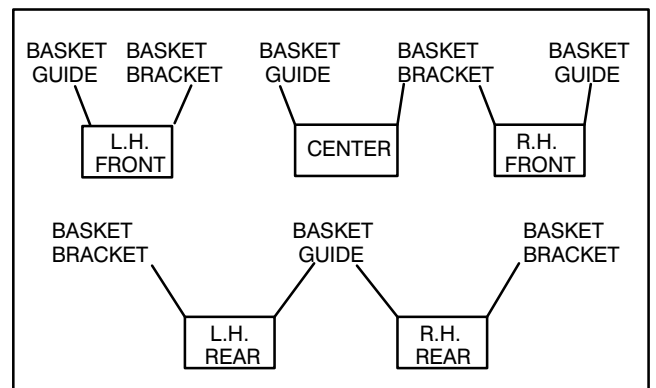
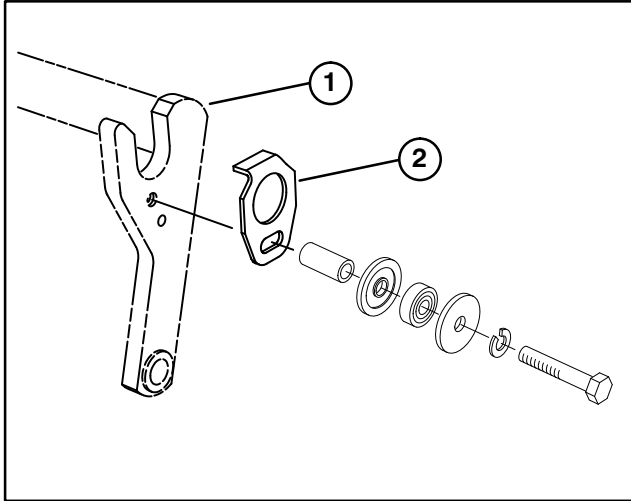
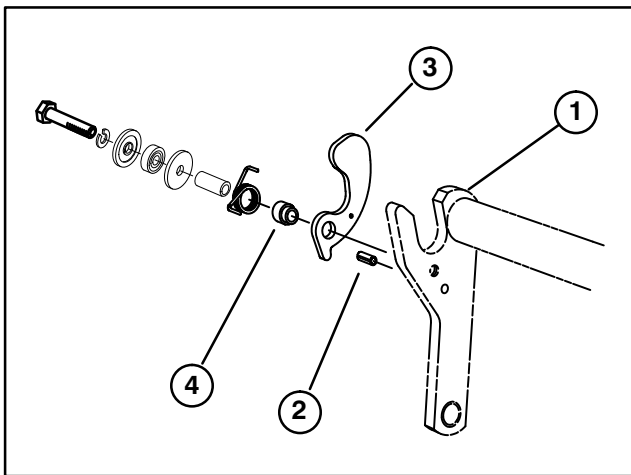
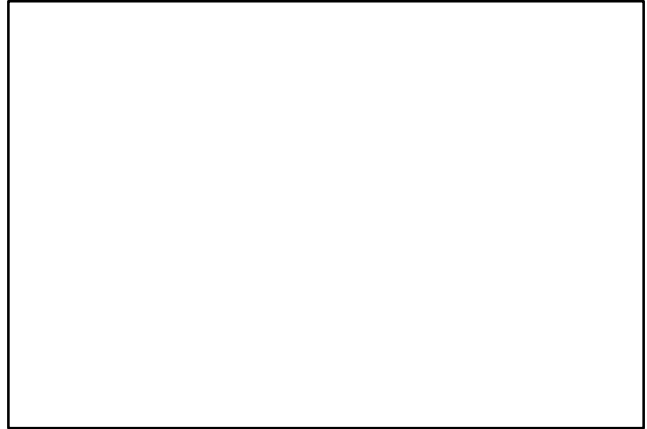

Figure 7
Figure 8
Figure 9
Figure 10
2. Using chart below (Fig. 7) determine the locations at which basket guides or basket brackets must be mounted to cutting unit carrier frames.
Note: If cutting units are equipped with Turf Compensation Kits, remove hardware securing kit to each end of carrier frame (Fig. 8 & 9) and reuse when installing basket guides and basket brackets.
3. Mount a basket guide (Fig. 8) to the appropriate side of each cutting unit carrier frame (see figure 7) with a 5/16–18 x 1–3/4" lg. capscrew, flatwasher and lockwasher or fasteners previously removed, as shown in figure 8.
4. Install a roll pin (Fig. 9) into hole in appropriate side of each cutting unit carrier frame (Fig. 7).
1–3/4" lg. capscrew, lockwasher, flatwasher, torsion spring, basket collar or fasteners previously removed, as shown in figure 9. Torsion springs are different for L.H. and R.H. sides of carrier frames. Three are (2) L.H. and (3) R.H. springs. Longer leg of spring is to be positioned forward as shown in Fig. 10.